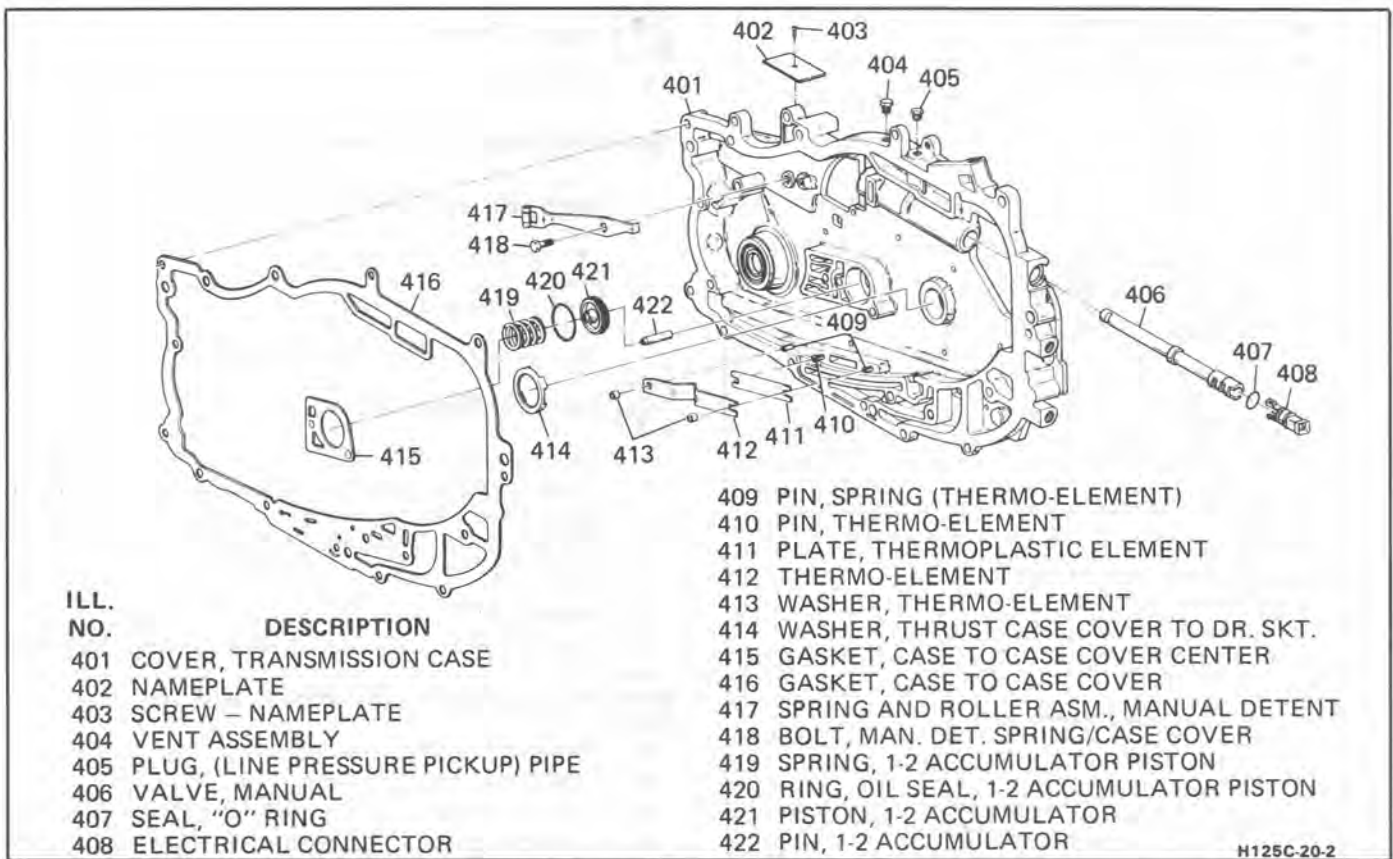
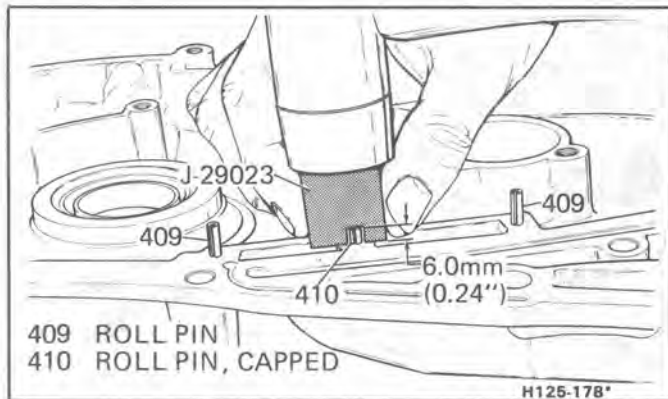
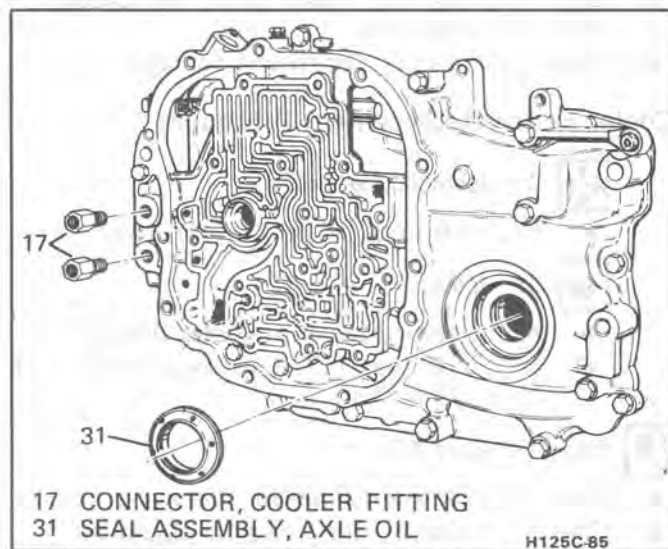

Figure 81 Case Cover - Case Side
Figure 82 Setting Center Roll Pin Height
Figure 84 Left Hand Axle Seal & Cooler Fittings
#### Clean (Figures 81 and 84)
#### Inspect (Figure 81 and 84)
#### Disassemble (Figure 84)
#### Inspect (Figure 81)
#### Disassemble (Figure 81)
**Assemble (Figure 82 and 83)**
- Install the element plate (411)
- Install the element (412)
- Install the washers (413) – use J-29023 to set the washer height.
**Inspect (Figure 84)**
- Left hand axle seal (31) for damage
- Seal (31)
- Seal (31) use J-26938 or J-29130
**Assemble (Figure 81)**
2. Thrust washer (414) – use petrolatum to hold in place.
3. Pin (422), chamfered end first
4. Piston (421)
5. Spring (419)
6. Gasket (415) – use petrolatum to hold in place.
**Install or Connect (Figures 81 and 85)**
- Gasket (416) to case cover
- Case cover (401) to case
- Coat (A) with thread sealer (Figure 84-A)